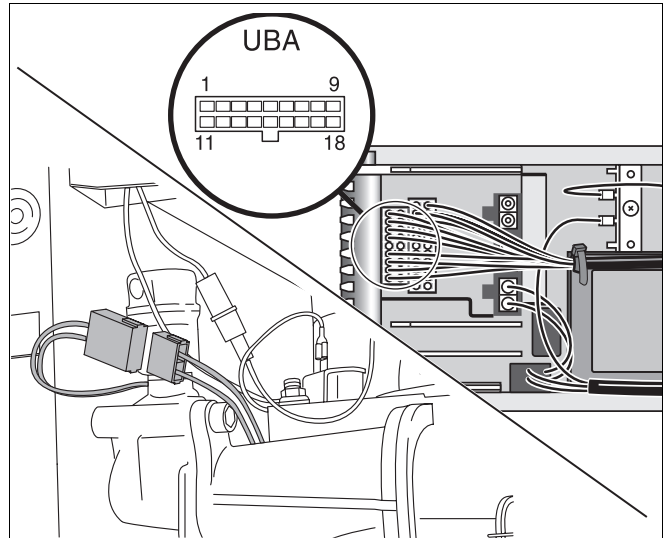

Fig. 50 Buderus 600 - 11R / 19R / 24R:
- Use a continuity tester to check the cable between the plug-in connection and the 18-pin plug in the UBA. The test should be carried out on connections 06-18 and 08-18 (fig. 50).